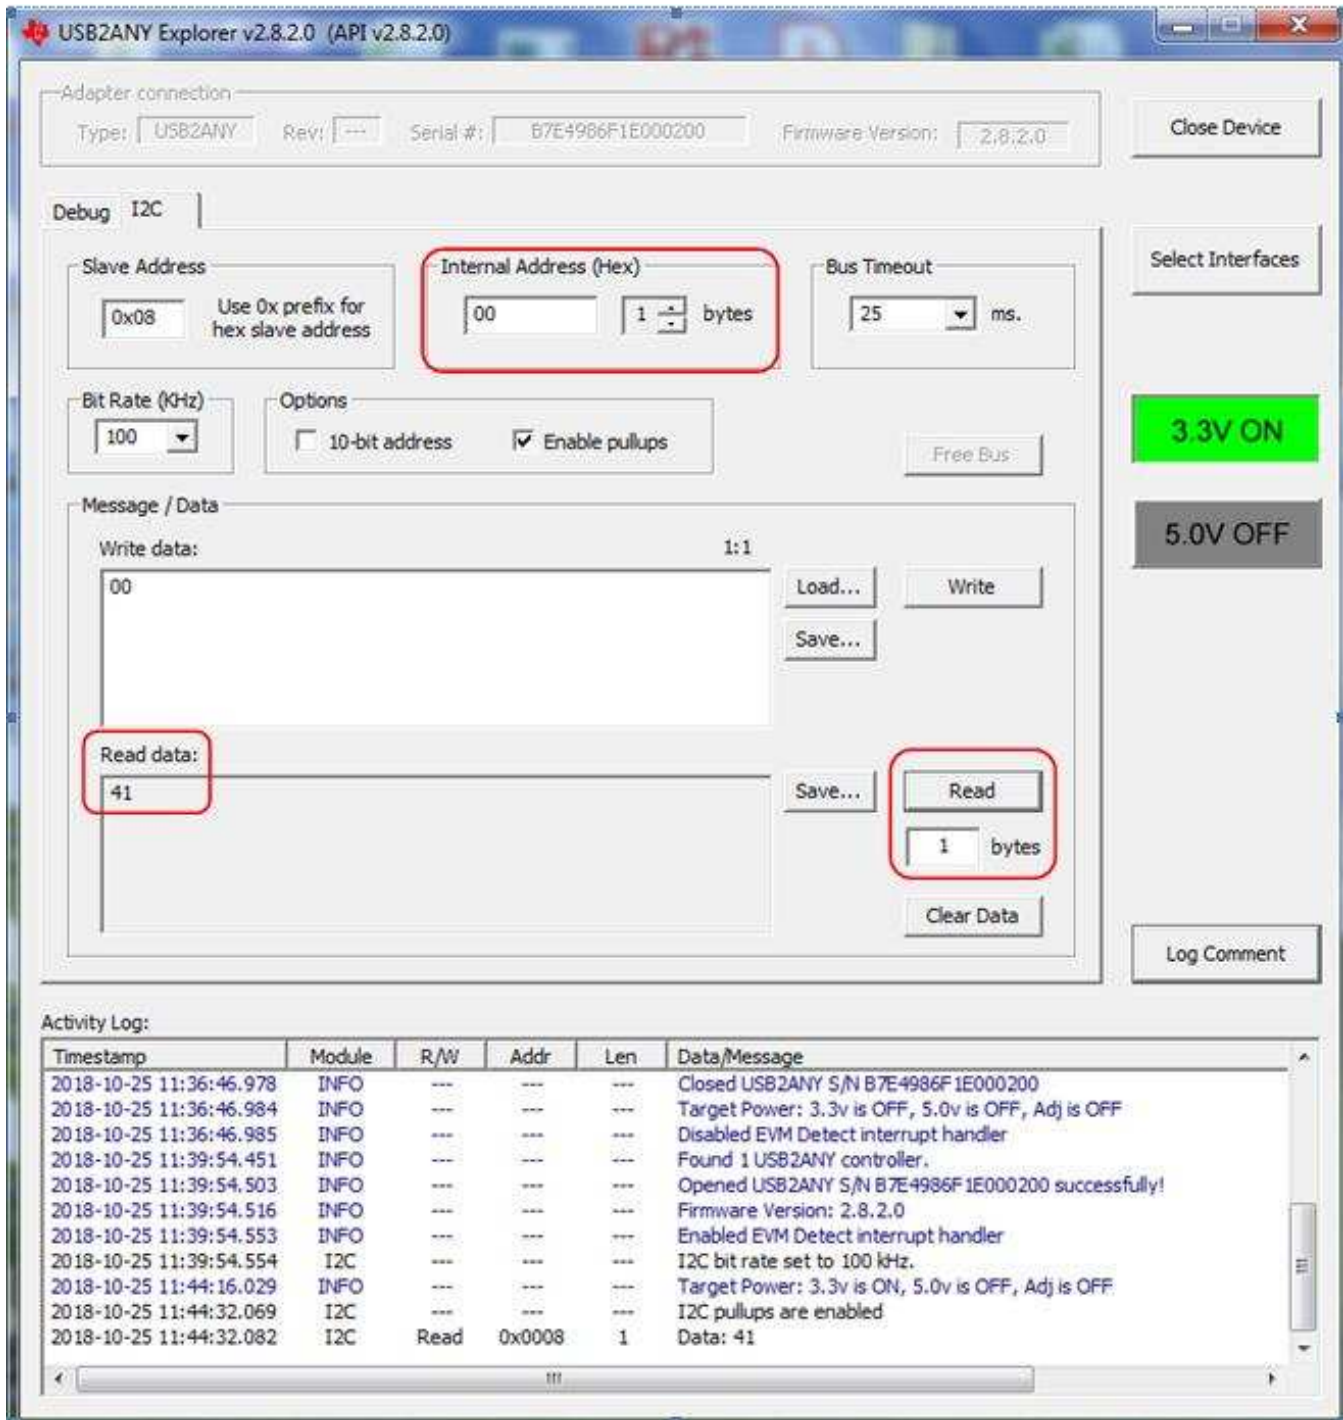

Figure 9. USB2ANY GUI to ONET1130EC-EVM Reliable Communication
- Make sure the internal address is set to 00 and click the "Read" button. If the read data is "41," the GUI and ONET1130EC-EVM have reliable communication. See Figure 9